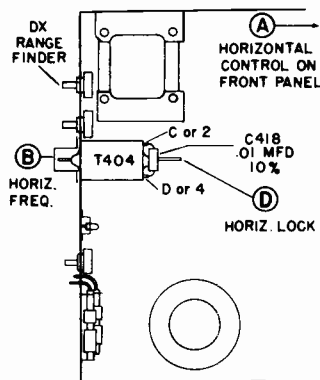
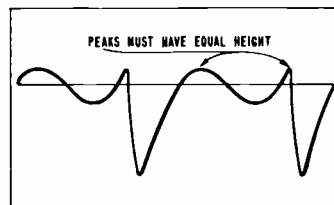

Figure 11. Bottom View of Chassis Showing Horizontal Sync Adjustments.
Figure 12. Horizontal Oscillator Waveform.
- Connect oscilloscope high side through a **10 mmfd. capacitor** to terminal marked "C" or "2" on the horizontal oscillator transformer T404 (see figure 11). It is important to use short leads and a very low capacity capacitor (at least 10 mmfd.) to avoid loading the circuit and thus distorting the waveform.
- Adjust the **Horizontal Lock** slug (D) (see figure 11) until the oscilloscope waveform pattern appears as in figure 12. The rounded and pointed peaks of the waveform must have equal height. The picture must be kept in sync to obtain the proper oscilloscope waveform. Keep the picture in sync by adjusting the **Horizontal Frequency** adjustment (B). If the picture still will not sync, check for a defective tube, components, or wiring, before continuing further.